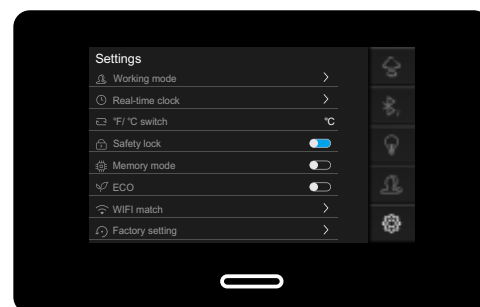
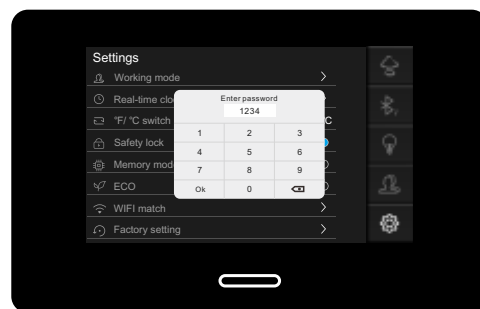

Figure 8
Figure 11
Press  to enter settings interface. (Figure 8)
- Press  on the right of "Working mode" to enter "Preset timing" interface. (Figure 8)
Press  on the right of  to switch between Fahrenheit and Celsius. (Figure 8)
Press  on the right of . A small window jumps out. Input a four digit number and press ok to exit. When the Control Panel is waken, it will need to input this four digit number to enter the Control Panel.(Figure 8, Figure 11)
When  on the right of  is off, The system will be limited to be operated in 8 hours and 113°F (45°C). (Figure 8)
When  on the right of  is on, The system will be operated by following the settings of user. (Figure 8)
Press  on the right of . The system will be limited to be operated in 122°F(50°C).  will be showed on the screen. (Figure 8)